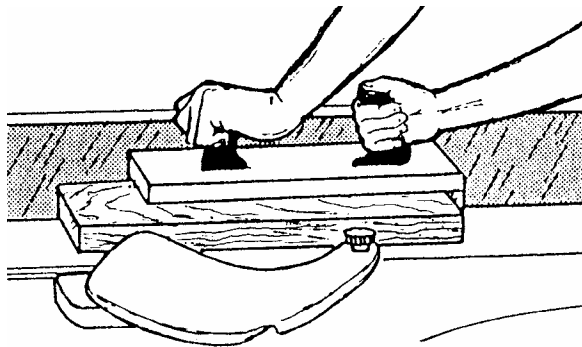

Figure 32
- ❑ On stock 8" to 12" long use a single two-handed push block (Figure 32).